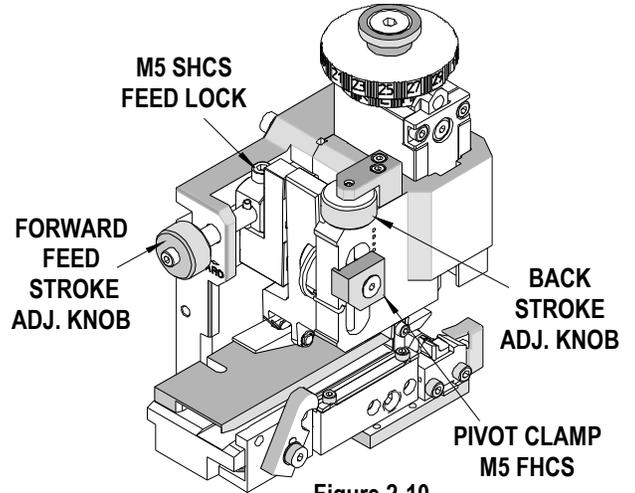

Figure 2-10
- Turn the forward feed adjusting knob to position the terminal. To decrease the feed position, turn the forward feed adjusting knob clockwise. To increase the feed position turn the forward feed adjusting knob counterclockwise. See Figure 2-10.
adjustment is complete, tighten the pivot clamp securely. See Figure 2-10.